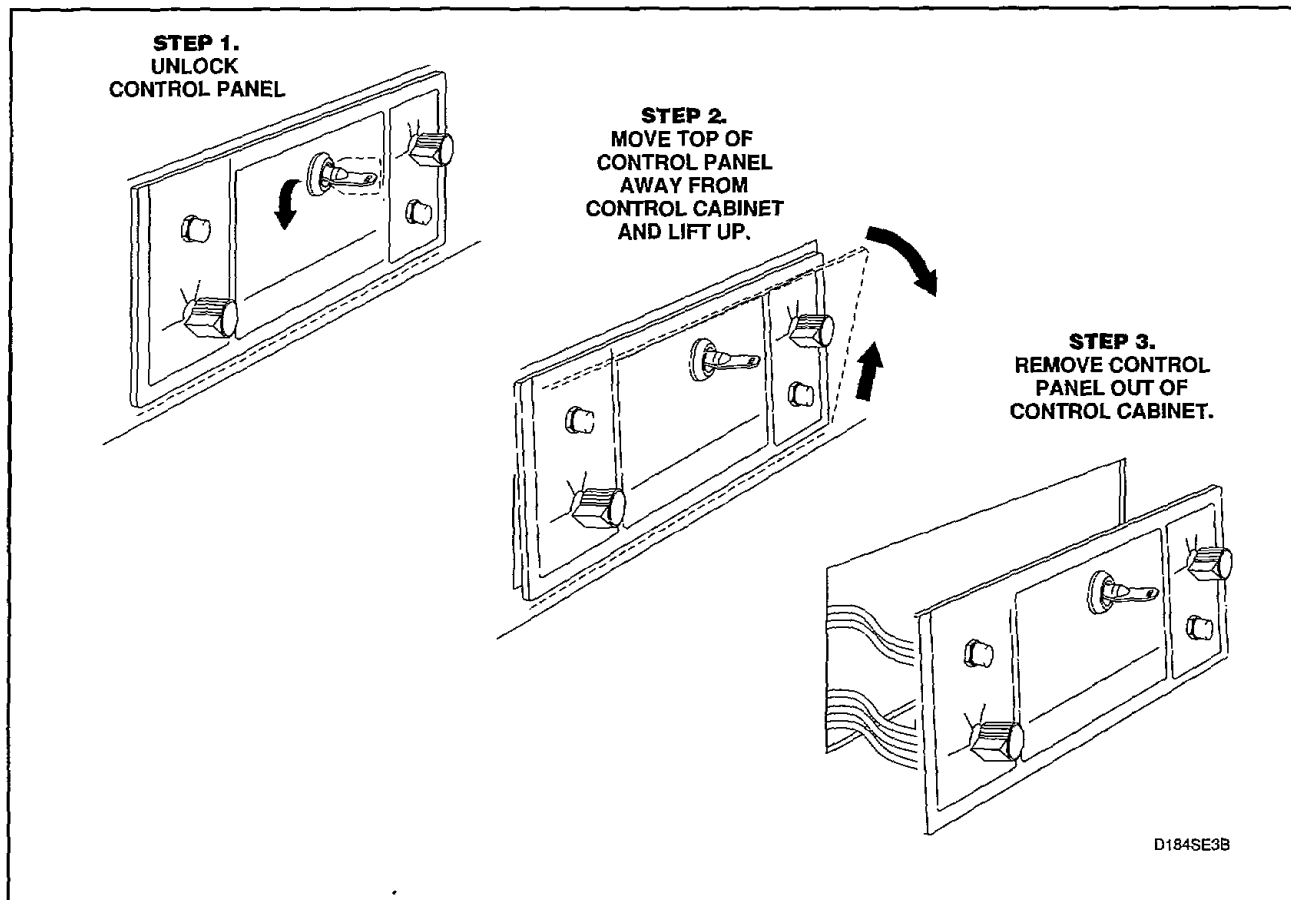

Figure 6
6. CONTROL PANEL, TEMPERATURE SWITCH, PUSH-TO-START SWITCH AND INDICATOR LIGHT (Figure 6)
- Unlock control panel, *Figure 6, Step 1.*
- Pull top of control panel away from control cabinet far enough to allow lifting the control panel up and off the rail support of the control cabinet, *Figure 6, Step 2.* Remove control panel away from control cabinet, *Figure 6, Step 3.*
- Unlock control panel, *Figure 6, Step 1*.
- Pull top of control panel away from control cabinet far enough to allow lifting the control panel up and off the rail support on front of control cabinet, *Figure 6, Step 2*. Remove control panel away from control cabinet, *Figure 6, Step 3*.
- Unlock control panel, *Figure 6*.
- Pull top of control panel away from control cabinet far enough to allow lifting the control panel up and off the rail support of the control cabinet, *Figure 6, Step 2*. Remove control panel away from control cabinet, *Figure 6, Step 3*.